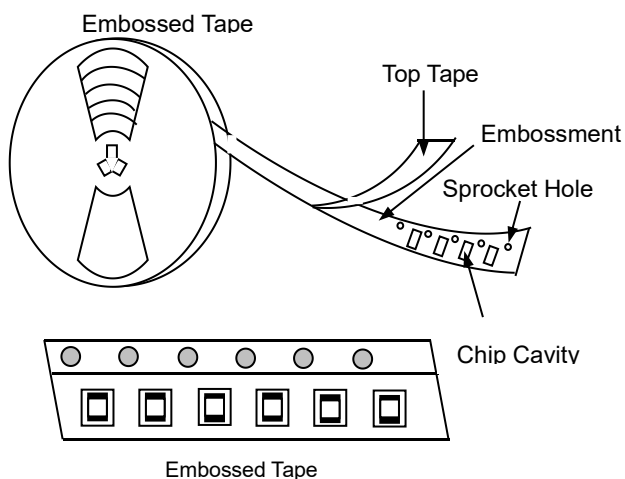

Fig. 6.1-1
- a. Tape carrier packaging are specified in attached figure **Fig.6.1-1~3**